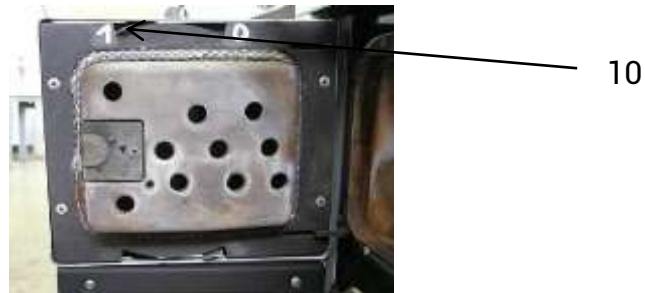

Figure 4
By supplying secondary air (Fig. 4, flowing of combustion air from above, over the fuel) to the fuel that is used, you achieve combustion with very few pollutants. The control of the secondary air is shown in Fig. 4, item 10. The secondary air is adjusted by the lever on the inside of the firebox door. 0-1 is visibly marked on the inside of the firebox door. If the lever is moved in the direction of 0, the quantity of the secondary air decreases and in the direction of 1 it increases.
- * Move the secondary air (Figure 4, item 10) to 1